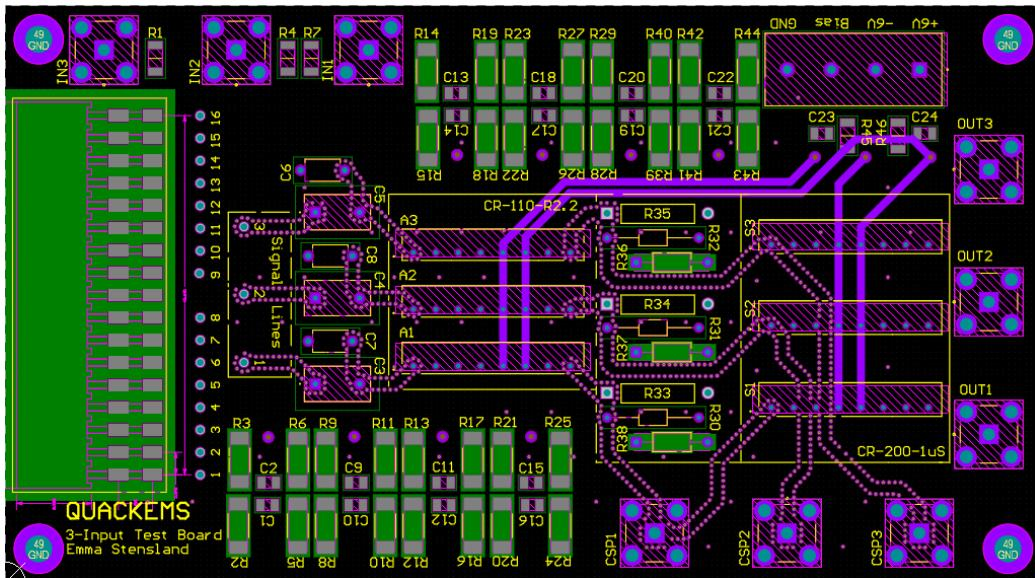

Figure 15: Layer 4 of 3-Input Test Board
4. Power Lines for Preamp and Shaper (Fig. 15)